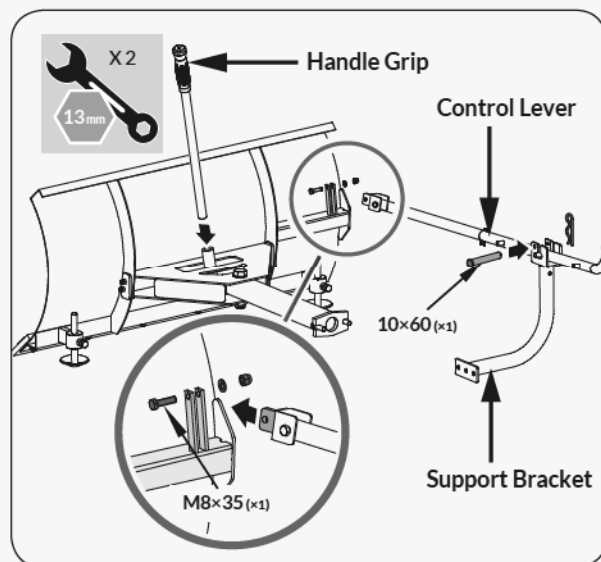

Figure 8d
- Secure the support bracket into the control lever with pin 10×60 and bridge clip. (See **Figure 8d**)